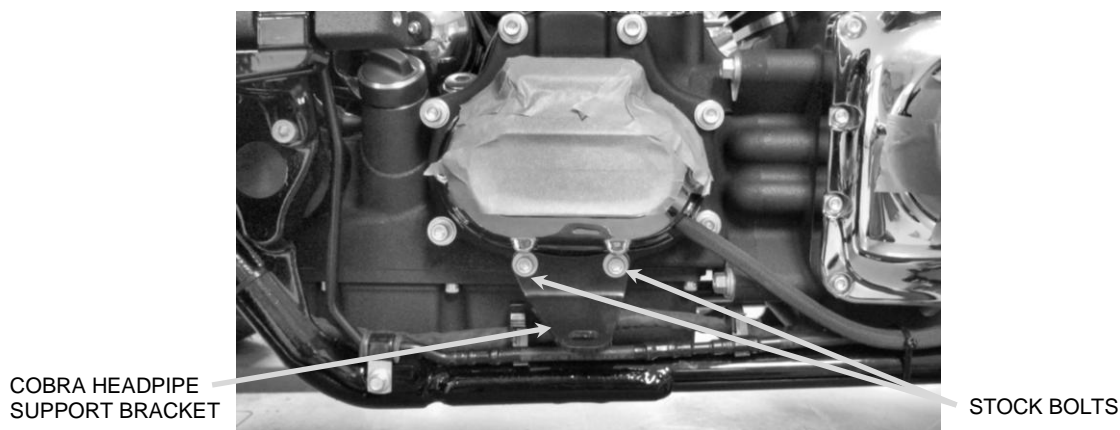

FIGURE 1
5. Install the supplied headpipe support bracket using the stock bolts. See **FIGURE 1**. Tighten the bolts to factory specifications.